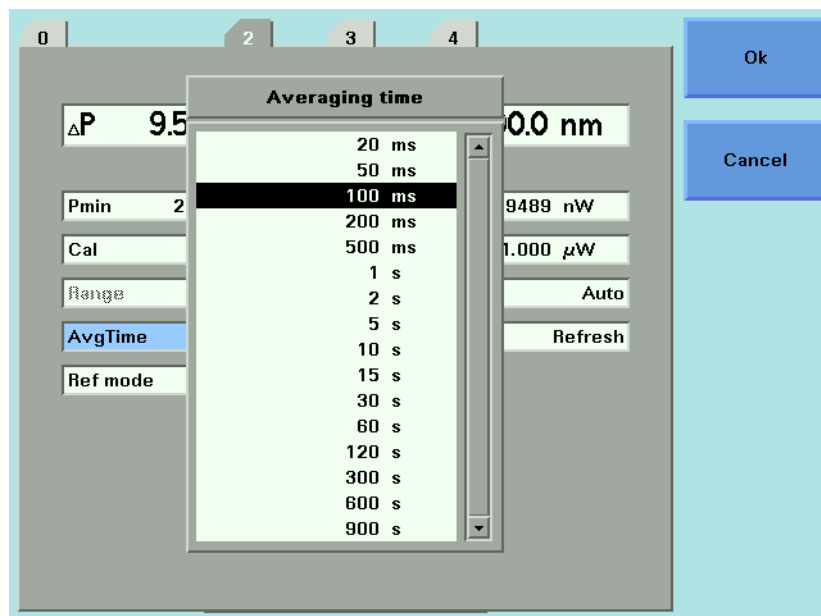

Figure 25 Averaging Time Menu
- 2 Move to the <*Averaging Time*> parameter and press *Enter*. You see the screen in Figure 25 on page -57.